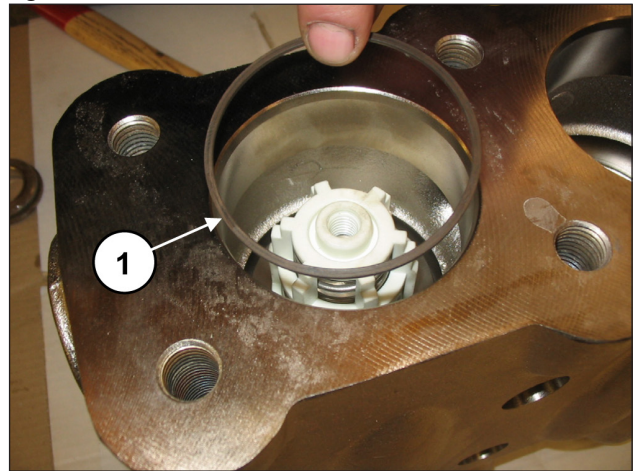

Fig. 126
Insert the anti-extrusion ring, exploded view pos. 16 (pos. ①, Fig. 126).